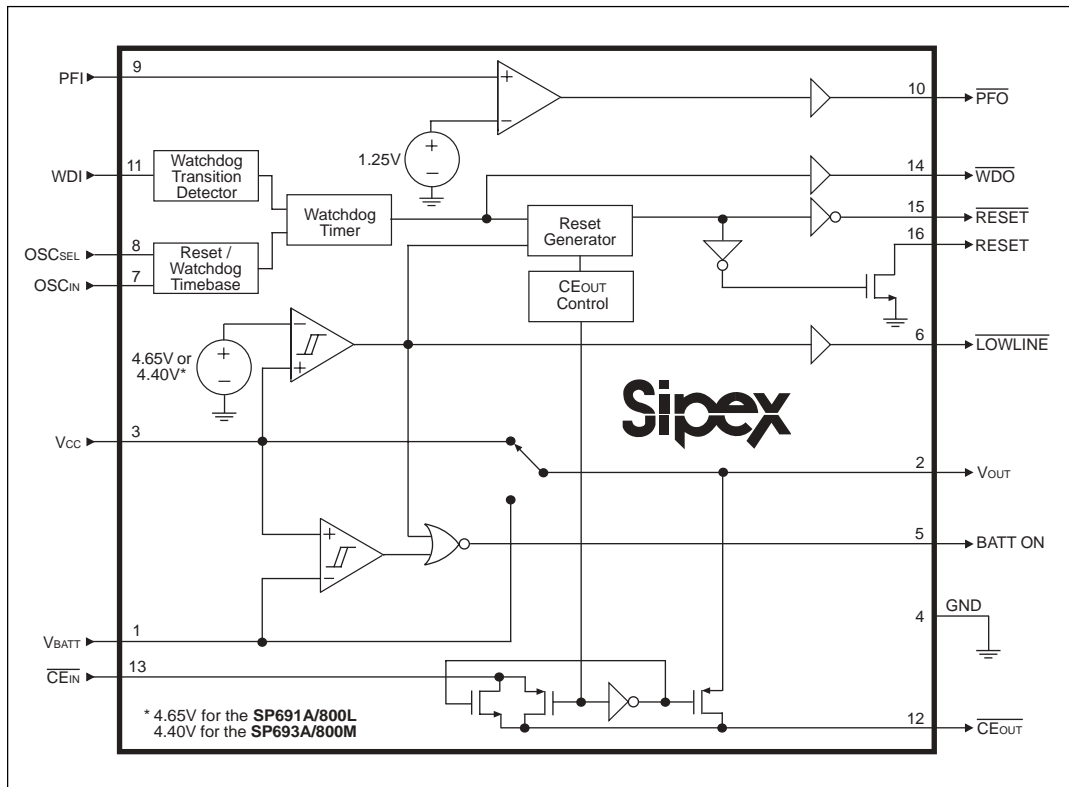

Figure 16. Internal Block Diagram of the SP691A/693A/800L/800M
The **SP691A/693A/800L/800M** devices provide internal gating of chip-enable (CE) signals, to prevent erroneous data from corrupting the CMOS RAM in the event of a power failure. During normal operation, the CE gate is enabled and passes all CE transitions. When reset is asserted, this path becomes disabled, preventing erroneous data from corrupting the CMOS RAM. The **SP691A/693A/800L/800M** devices use a series transmission gate from  $\text{CE}_{\text{IN}}$  to  $\text{CE}_{\text{OUT}}$ . Refer to *Figure 16*.
LOWLINE is the buffered output pin of the reset threshold comparator. Refer to Figure 16. LOWLINE typically sinks 3.2mA at 0.1V. For normal operation where  $V_{CC}$  is above the reset threshold, LOWLINE is pulled to  $V_{OUT}$ .